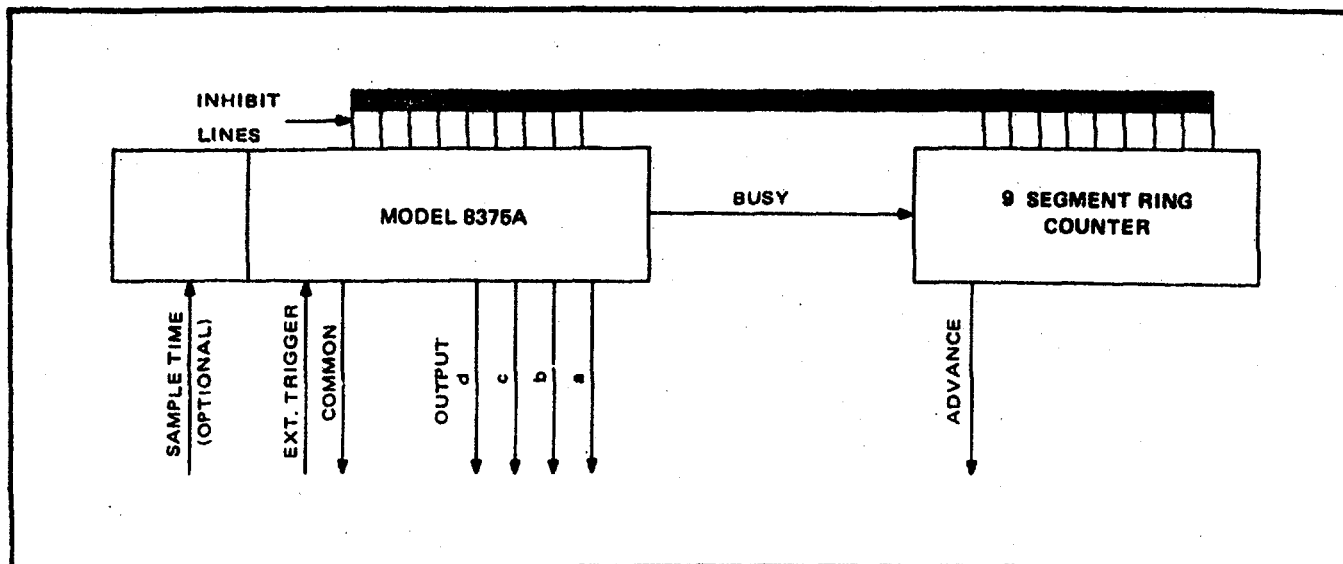

Figure 2-9. MINIMUM LINES ACQUISITION
- a. Place a customer fabricated 9-segment ring counter near the 8375A and interface as shown in Figure 2-9.